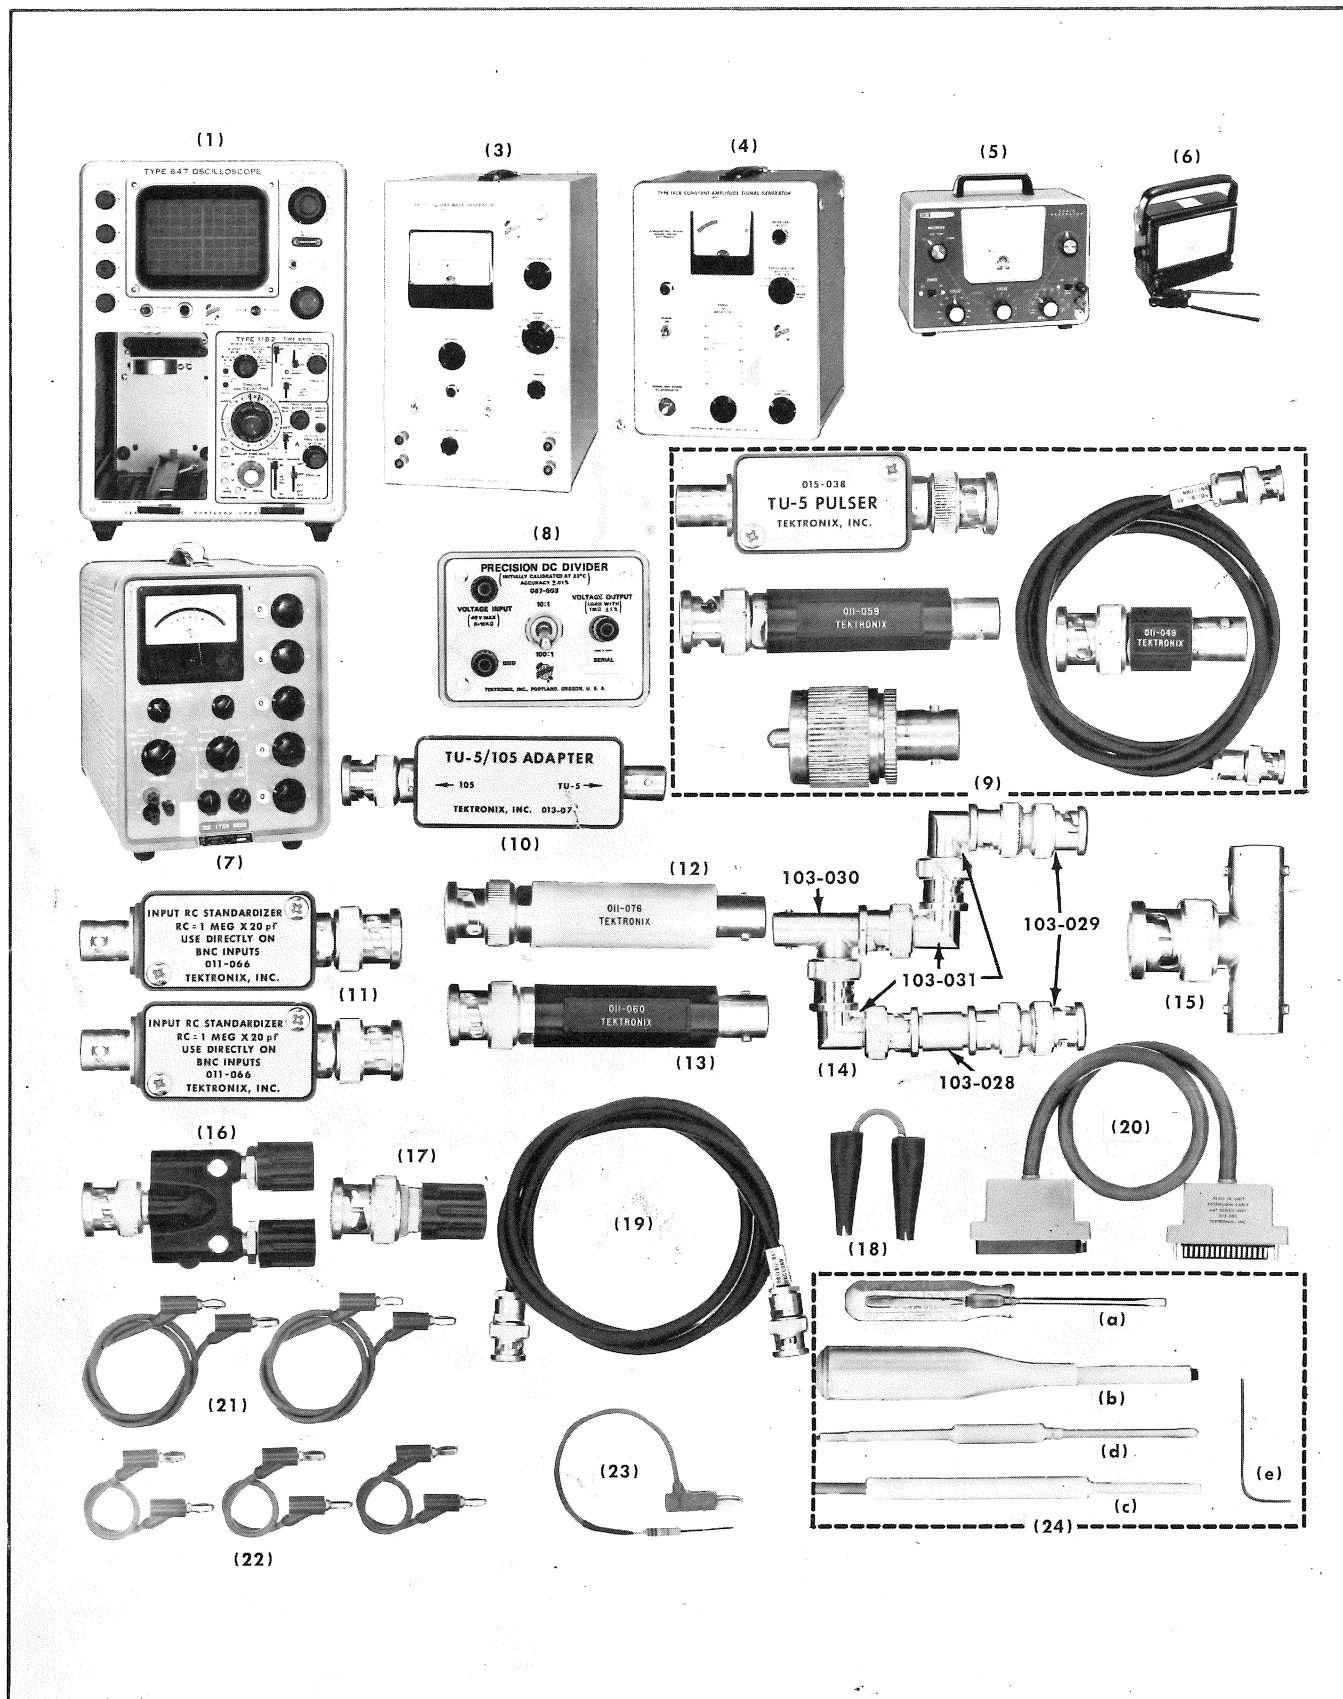

Fig. 5-1. Equipment required for a complete calibration of the Type 10A1. Item 2 (optional) is not shown.
(12) 2.5× 50-ohm attenuator, 1/2 w, with BNC plug-and-jack connector fittings. Tektronix Part No. 011-076.
(13) 5× 50-ohm attenuator, 1/2 w, with BNC plug-and-jack connector fittings. Tektronix Part No. 011-060.
(14) Special dual input connector (see Fig. 5-1). Made by using the following BNC connector fittings: